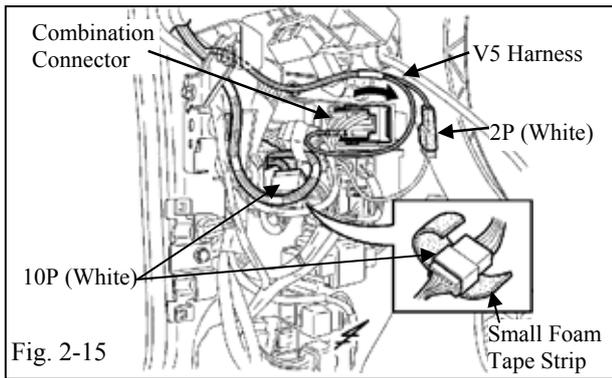

Fig. 2-15
- (r) Plug in the V5 harness' white 2P male connector to the white 2P female connector, and reconnect the combination connector. (Fig. 2-15)
- (1) Verify the connectors are plugged in securely.
- (s) Wrap the white 10P connectors in one small foam tape strip. (Fig. 2-15)